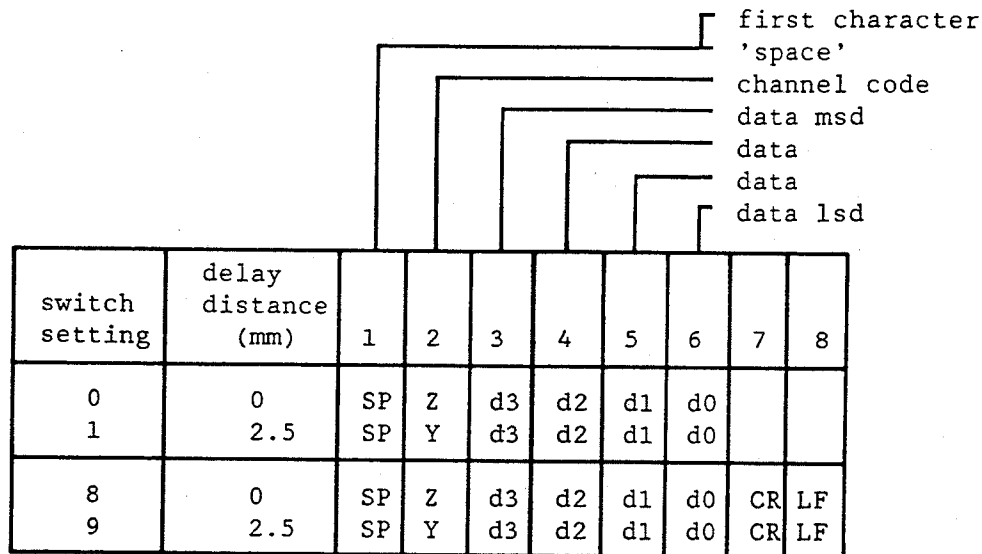

Figure 5-2. Switch setting and data format
- 3) Set the switch on the module for channel 1 to "0" or "8" and the switch for Channel 2 to "1" or "9". See Figure 5-2.